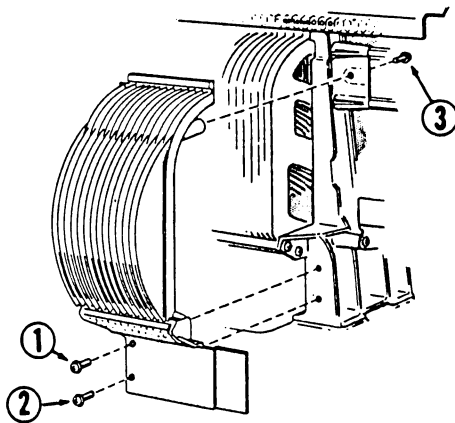

Figure 17.
2. Remove magazine filler by unscrewing (1), (2) and (3) and withdrawing entire section from the front of the record magazine, *Figure 17*.